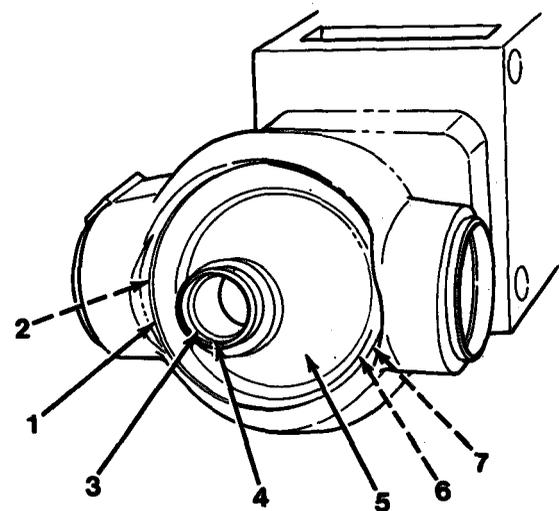

Figure 12-1
9. Apply a bead of silicone around threaded portion of nut (1, Figure 12-1).
10. Install nut (1). Turn nut (1) in counterclockwise direction to engage the leading thread. Torque nut (1) in clockwise direction to 100 lb-ft (136 N•m).